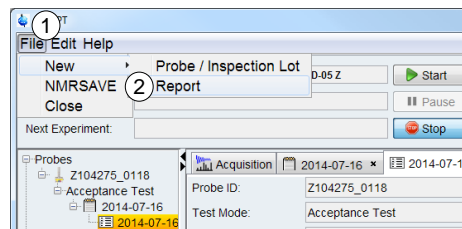

Figure 3-16: Create new Report for probe
23. On the **File** menu shown in Figure 3-16 (1), point to **New**, and then click **Report** (2). The New Report dialog opens.